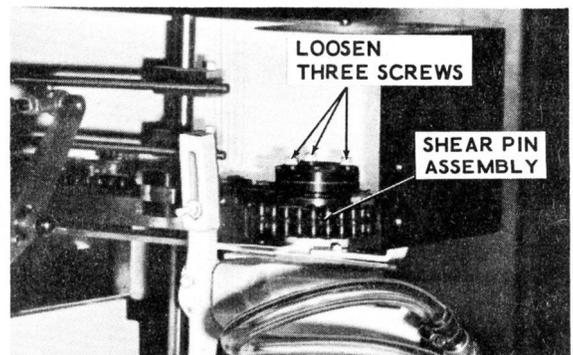

Figure 3-44. Positioning Clamp for Pouch Pickup
- b. Loosen three socket head screws (Figure 3-44) at the top of the shear pin assembly located on the conveyor drive mechanism. Move the conveyor chain until 1-1/16 inch dimension is set. Tighten the three socket head screws securely.